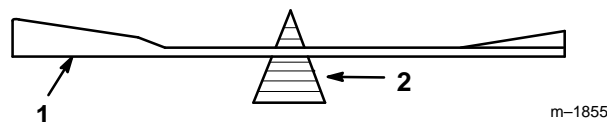
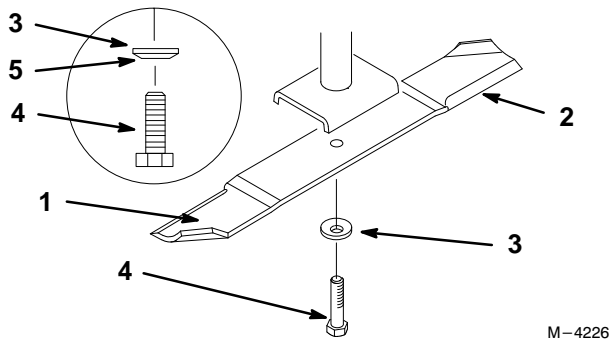

Figure 19
Figure 20
1. Hold the blade end using a rag or thickly-padded glove. Remove the blade bolt, spring disk and blade from the spindle shaft (Fig. 20).
2. Check the balance of the blade by putting it on a blade balancer (Fig. 19). If the blade stays in a horizontal position, the blade is balanced and can be used. If the blade is not balanced, file some metal off the end of the sail area only (Fig. 20). Repeat this procedure until the blade is balanced.
1. Install the blade onto the spindle shaft (Fig. 20).
2. Install the spring disk and blade bolt (Fig. 20). Torque the blade bolt to 85–110 ft-lb (115–150 N•m).